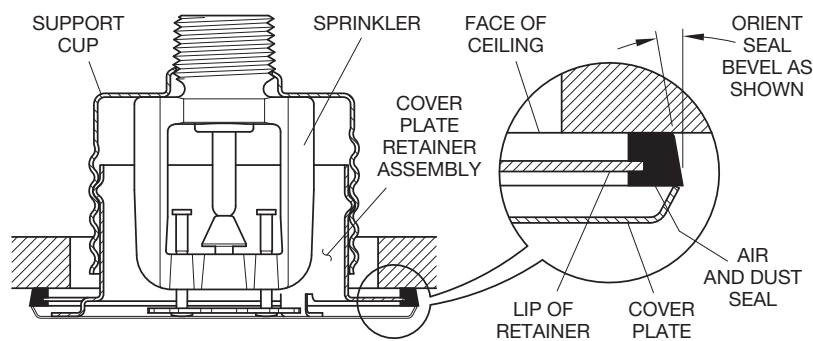

FIGURE 5
As an option, the Series RFII Standard Response (5-mm bulb) “Royal Flush II” Concealed Pendent Sprinklers can be fitted with a silicone Air and Dust Seal. (Refer to Figure 5.) The Air and Dust Seal is intended for sensitive areas where it is desirable to prevent air and dust from the area above the ceiling to pass through the cover plate.
Step 7. When installing an Air and Dust Seal, refer to Figure 5; otherwise, proceed to Step 8. To attach the Air and Dust Seal, verify the angle of the outside edge of the seal is oriented according to Figure 5. Start the edge of the Retainer in the grooved slot of the Air and Dust Seal and continue around the retainer until the entire Air and Dust Seal is engaged.
Step 8. Screw on the Cover Plate/Retainer Assembly until the Retainer (shown in Figure 2) or the Air and Dust Seal (shown in Figure 5) contacts the ceiling. Do not continue to screw on the Cover Plate/Retainer Assembly so that it lifts a ceiling panel out of its normal position. If you cannot engage the Cover Plate/Retainer Assembly with the Support Cup or you cannot engage the Cover Plate/Retainer Assembly sufficiently to contact the ceiling, you must reposition the Sprinkler Fitting.